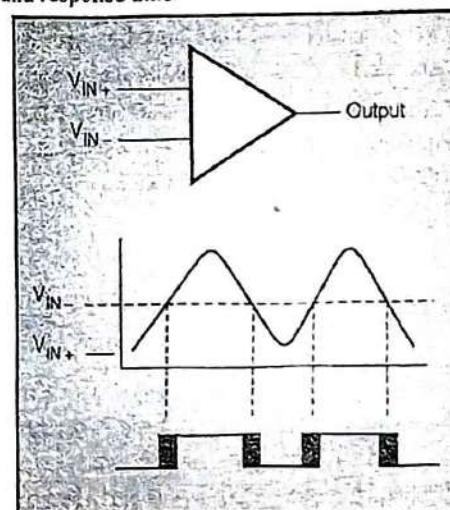

Fig. 1.10.5 : Single comparator
- The comparator module contains two analog comparators. The inputs to the comparators are multiplexed with the pins RF1 to RF6. A single comparator is shown in Fig. 1.10.5, along with the relationship between the analog input levels and the digital output. When the analog input at V_{IN+} is less than the analog input V_{IN-} , the output of the comparator is a digital low level. When the analog input at V_{IN+} is greater than the analog input V_{IN-} , the output of the comparator is a digital high level! The shaded areas of the output of the comparator in Fig. 1.10.5 represent the uncertainty, due to input offsets and response time.